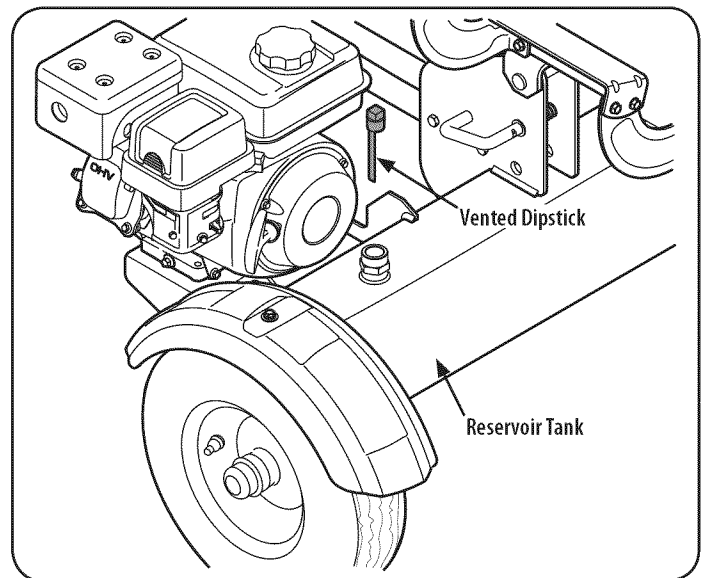

Figure 12
2. Remove the vented dipstick, which is located in front of the engine on top of the reservoir tank. See Figure 12.
3. Check the fluid level using the dipstick. See Figure 12. Do not overfill.